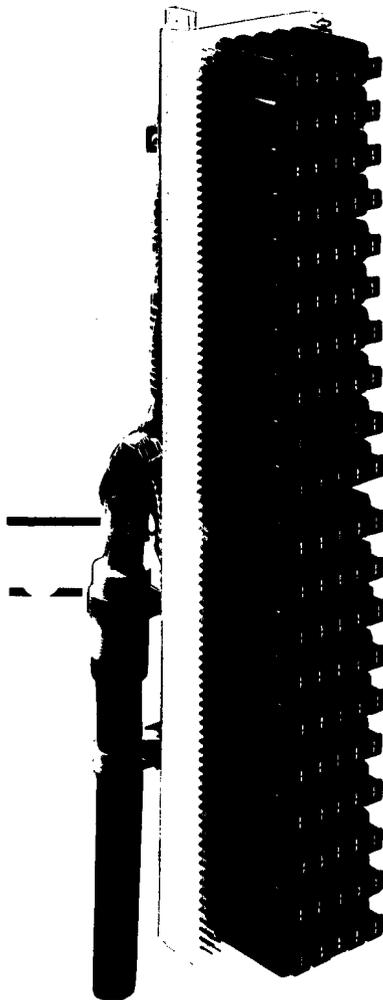

FIGURE 1. 100-Pair Connector With Stub
- 2.01 The basic component of the Reliable Electric 700 connector is the 10" long 50-pair unit of molded plastic with attached fanning strips. Two 50-pair connectors are secured as a single unit by two continuous grounding-mounting bars on an aluminum supporting bar to make up the 100-pair unit. See Figure 1. They are equipped with a 101-pair stub and 100 protector units.